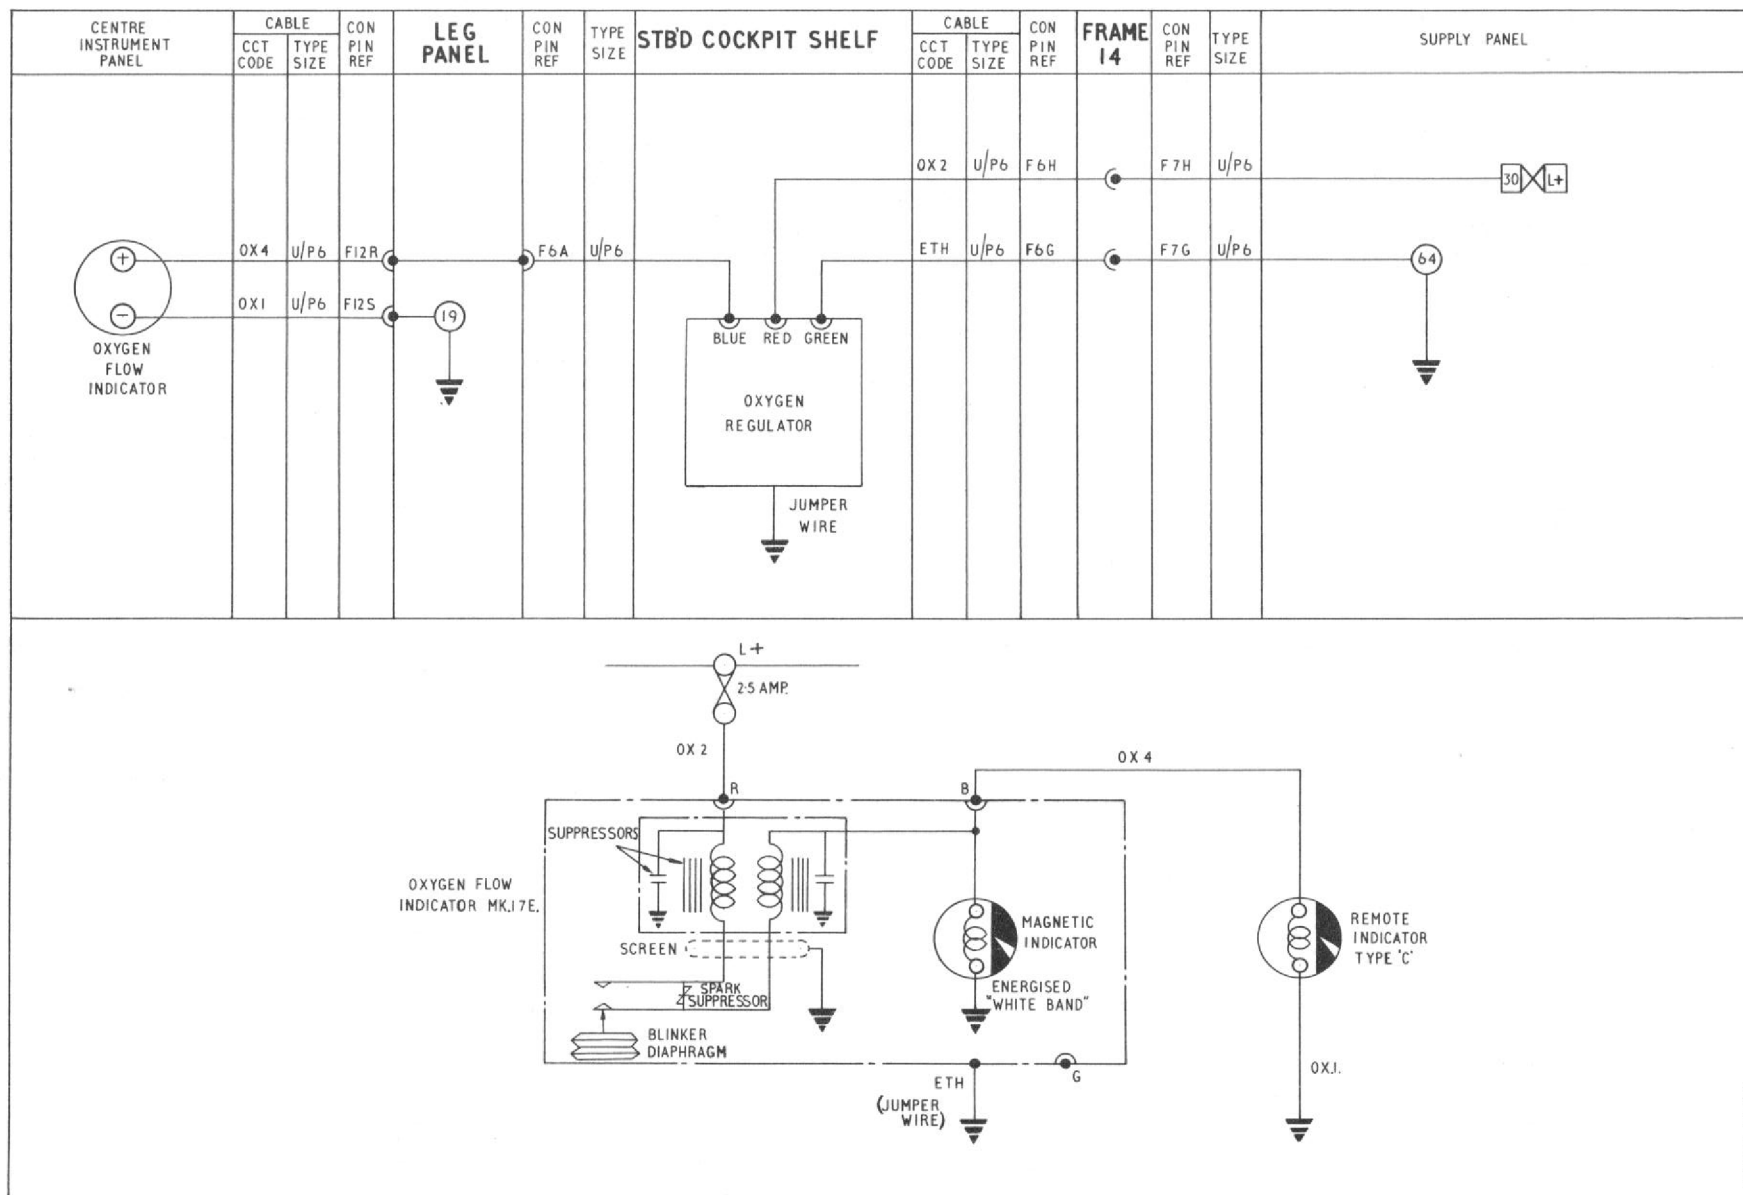

Fig.2. Oxygen flow indicator (routeing and theoretical)
7. The oxygen demand regulator is mounted at the forward end of the cabin starboard shelf. Its electrical supply is taken from a fuse on the supply panel. The manual controls incorporated in the regulator consists of an ON/OFF valve, an air inlet shutter, and an emergency button. Also, mounted on the panel of the indicator, is a pressure gauge, and an electro-magnetic flow indicator. In operation the regulator is fully automatic, and when turned on it supplies oxygen in accordance with the demand, from sea level to a cabin altitude of 50,000 feet. An additional electro-magnetic type flow indicator is mounted on the centre instrument panel. Routeing and theoretical diagrams of the electrical circuit are given on fig.2.